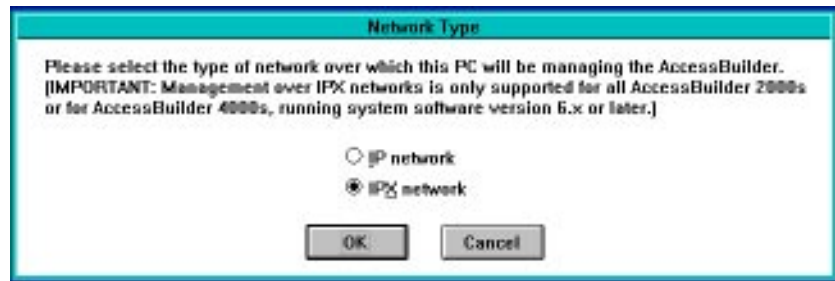

Figure 3-4 Network Type Dialog Box
- 8 The Network Type box appears (Figure 3-4) and requests selection of the network type on which TABM will be used. Select your network type (default = IP) then click on the OK button. Note that following this step, only screens unique to the selected network type will appear.